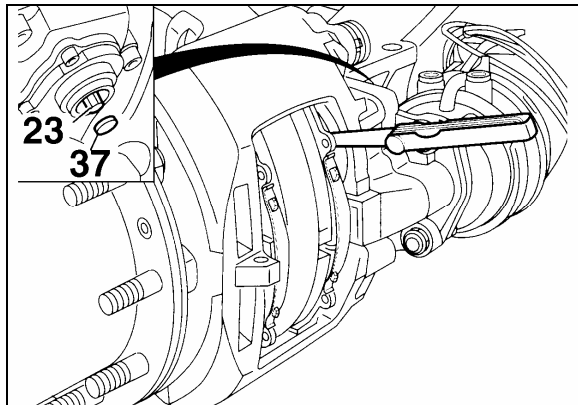

FIGURE 35: RUNNING CLEARANCE 12116
- a) Insert a feeler gauge 0.028 inch (0.7 mm thickness) between tappet and pad backplate (Fig. 35). Turn adjuster pinion clockwise until 0.028 inch (0.7 mm) clearance is achieved. Replace cap (37) (Prévost # 641313).
- b) To ensure a constant running clearance between the rotor and pads, the brake is equipped with an automatic adjuster unit. When the pads and rotor wear, the running clearance between the pads and rotor increases. The adjuster (23, Fig. 35) and turning device turn the threaded tubes by the amount necessary to compensate the wear.